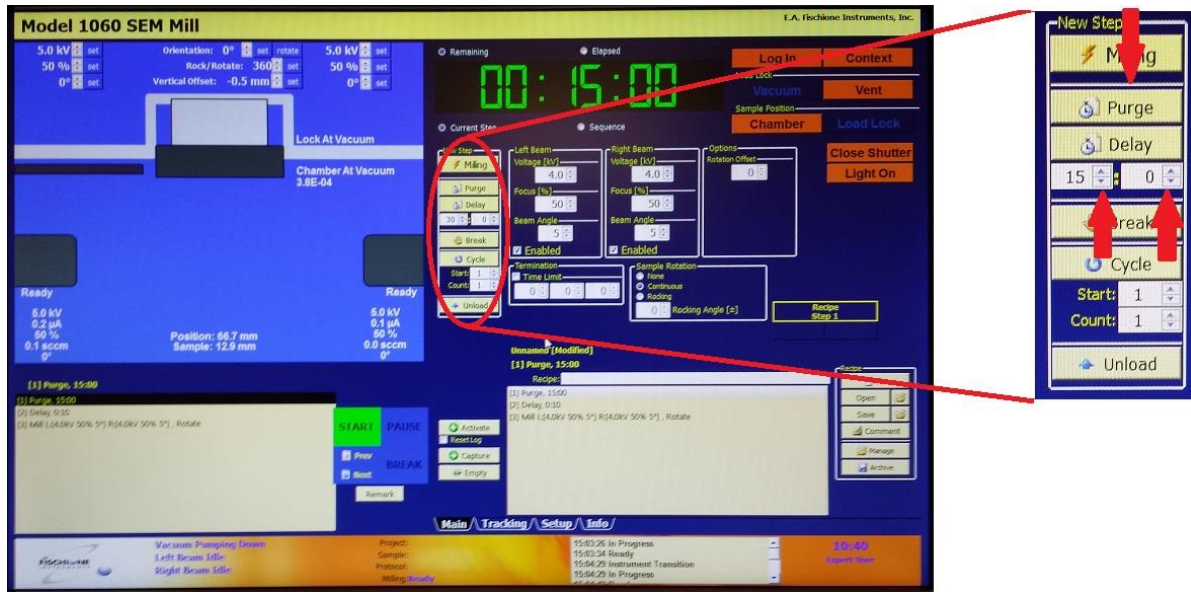
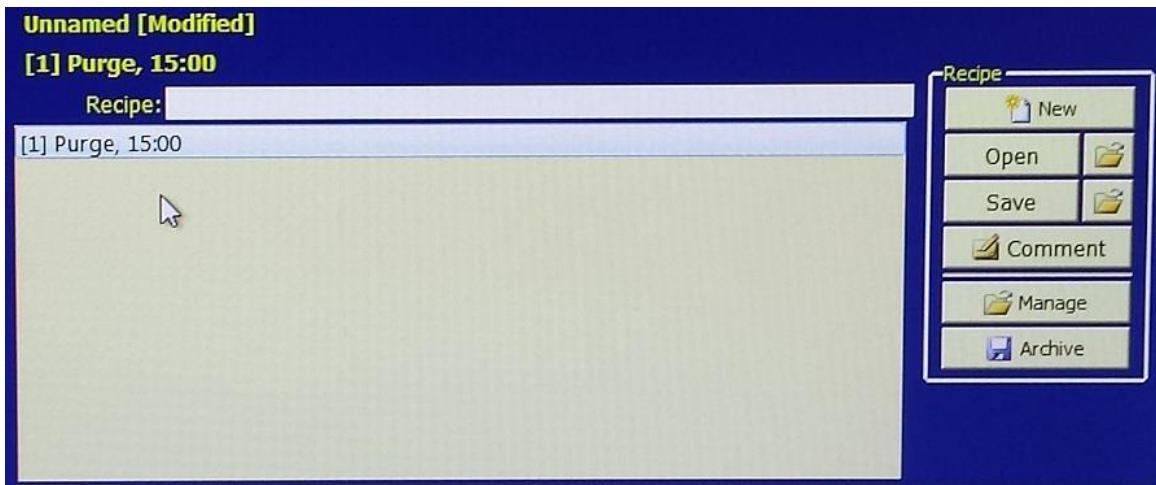

Figure 8a
Figure 8b
- Before any milling can begin, the system must be purged before the first use of the day. Use the up and down arrows to adjust the amount of time in minutes and seconds (**Figure 8a**). Click “**Purge**” from the main tab. This will add this step to the Step Screen (**Figure 8b**). To remove any step in the step screen, right click on the step and click “**Delete**”. **Purging must be done for 15 minutes.**